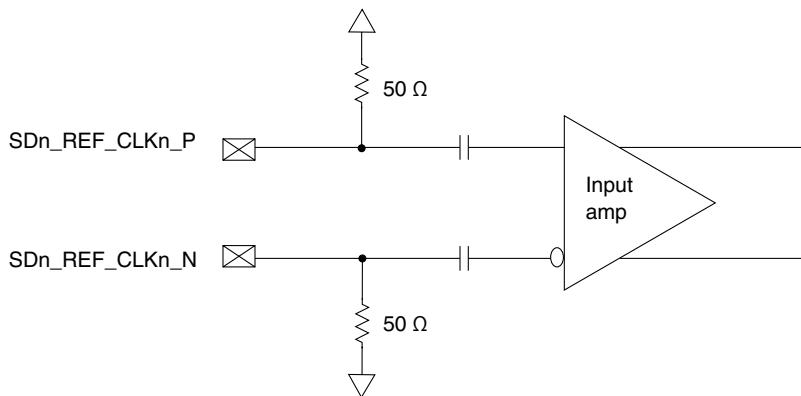

Figure 30. Receiver of SerDes reference clocks
- The SD_n_REF_CLK_n_P and SD_n_REF_CLK_n_N are internally AC-coupled differential inputs as shown in Figure 30. Each differential clock input (SD_n_REF_CLK_n_P or SD_n_REF_CLK_n_N) has on-chip 50-Ω termination to SGND_n followed by on-chip AC-coupling.
- For an external DC-coupled connection, as described in Figure 30, the maximum average current requirements set the requirement for average voltage (common mode voltage) as between 100 mV and 400 mV.